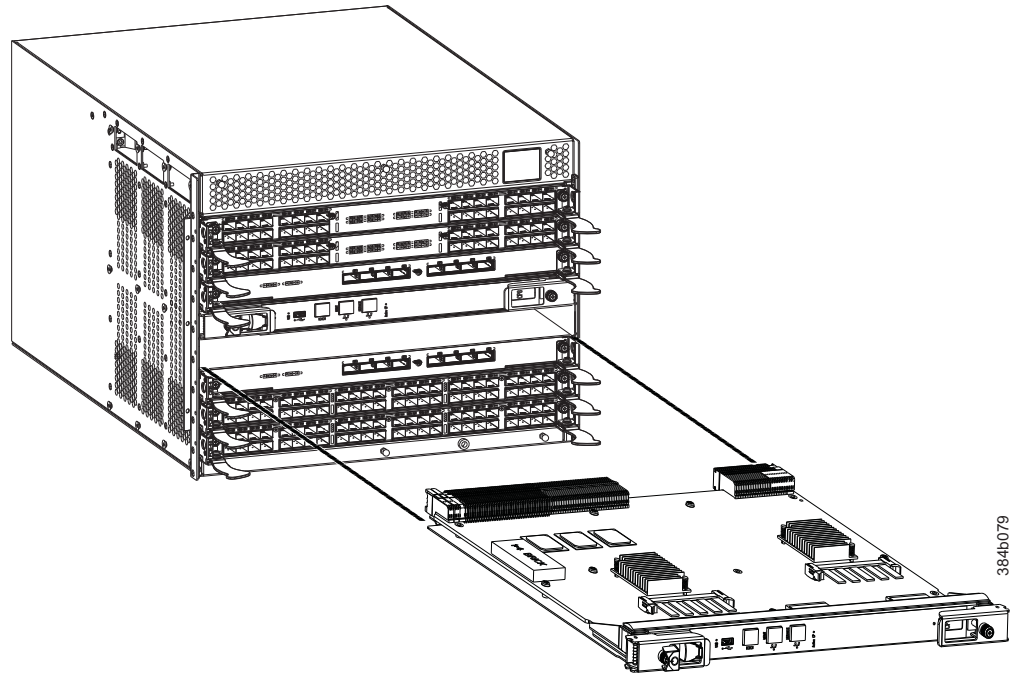

Figure 31. Removing the control processor (CP8) blade
8. Lever open both ejector handles simultaneously to approximately 45 degrees and pull the CP blade out of the chassis (see Figure 31 on page 71).